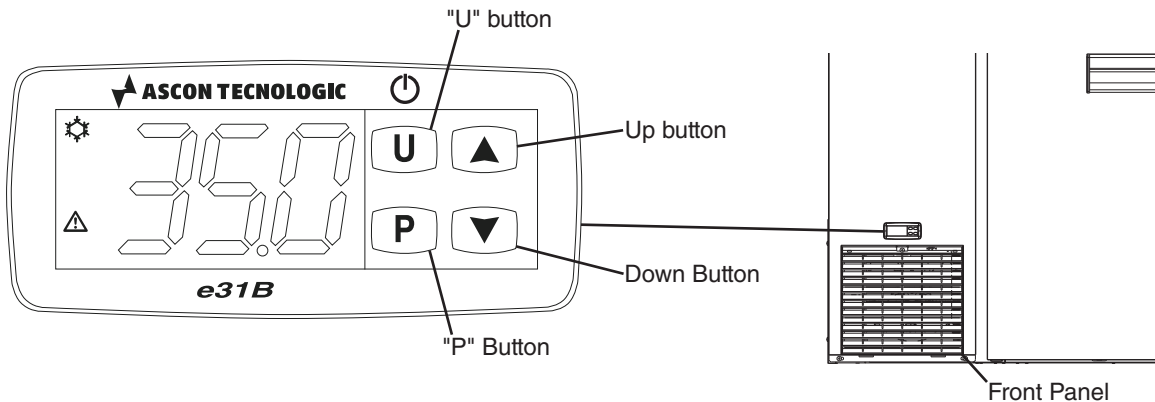

Fig. 9
- a) **Cabinet Temperature Setpoint Adjustment:** The cabinet temperature is displayed on the cabinet control module. To change the cabinet setpoint, press the up arrow and release. See Fig. 9. SP1 and the current cabinet setpoint flashes. Press the up or down arrow button to the desired setpoint. 5-sec. later, the setpoint is saved and the display returns to normal.